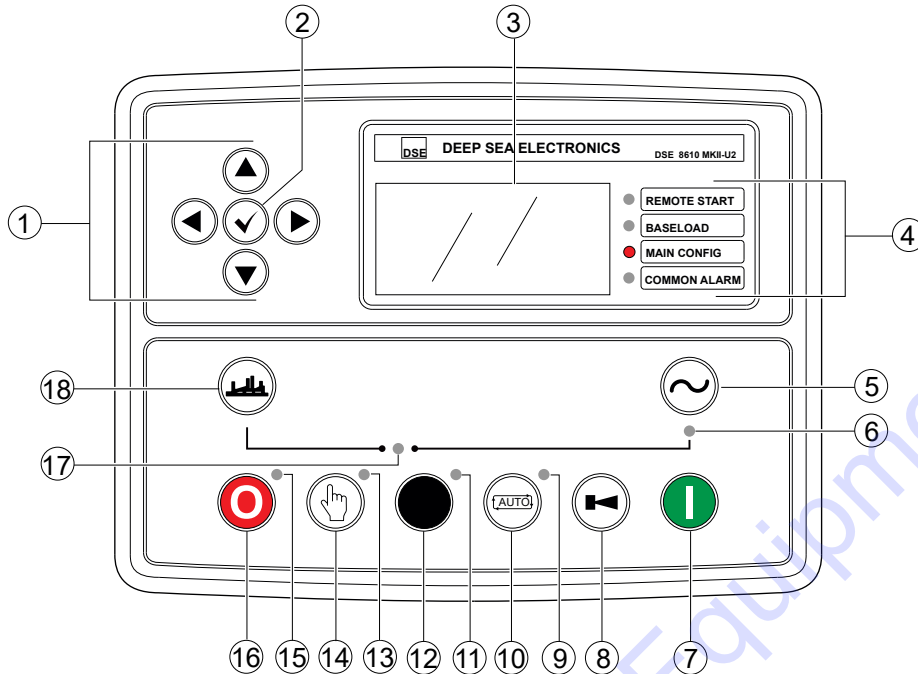

Figure 6. DSE8610 MKII Controller
6. **Contactor Open Lamp** — When lit (**GREEN**), indicates contactor switch is **OPEN**. Load is removed. Works in conjunction with the contactor open button located on the controller. Reference Figure 6.
7. **Contactor Closed Lamp** — When lit (**RED**), indicates contactor switch is **CLOSED**. Load is connected. Works in conjunction with the contactor closed button located on the controller. Reference Figure 6.
The definitions below describe the controls and functions of the DSE8610 MKII Deep Sea Controller (Figure 6).